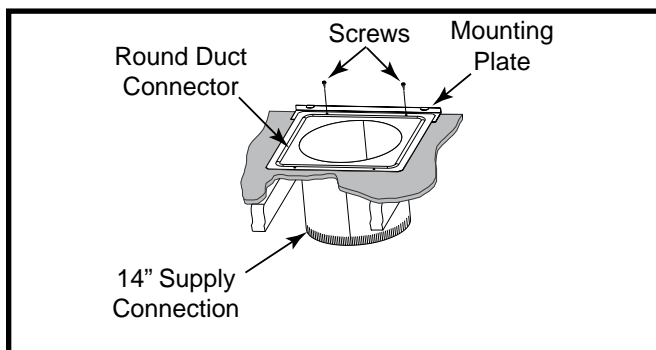

Figure 12. Round Duct Connector Installed
3. Install the mounting plate under the back side of the duct connector. See Figure 12. **NOTE:** Align the screw holes in both components.